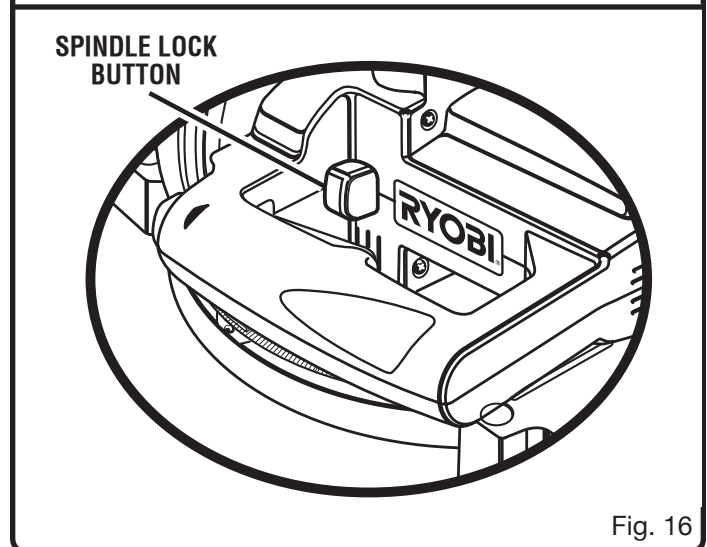

Fig. 16
- Depress the spindle lock button and rotate the blade bolt until the spindle locks. See Figure 16.
- Depress the spindle lock button and rotate the blade bolt until the spindle locks. *See Figure 16.*